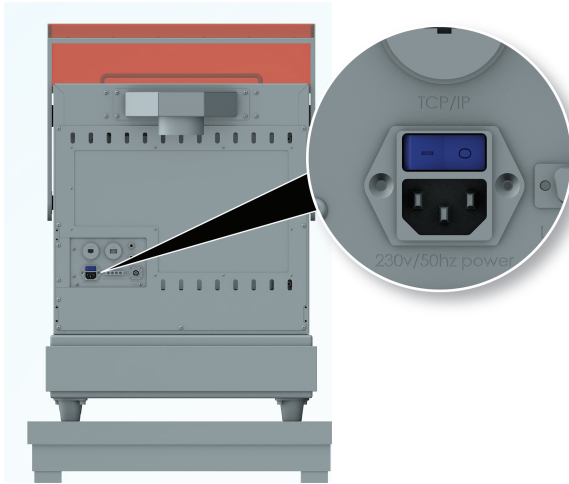

Figure 4-27 Turning on the PICOMASTER
4. Turn off the power switch on the back of the PICOMASTER, see **Figure 4-27 below**